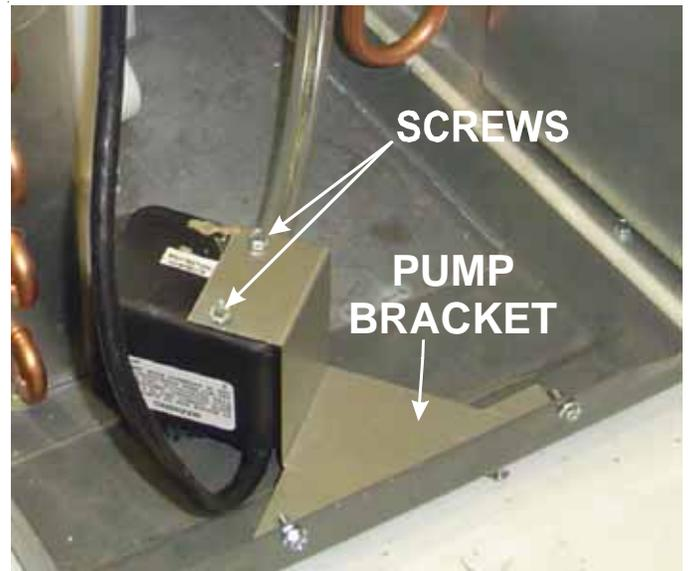

Figure 6
14. Place the pump bracket onto the top of the pump and screw the pump bracket to the pump with the provided two (2) 1/2 inch #8 screws so that the bracket is secure against the pump (Figure 6).